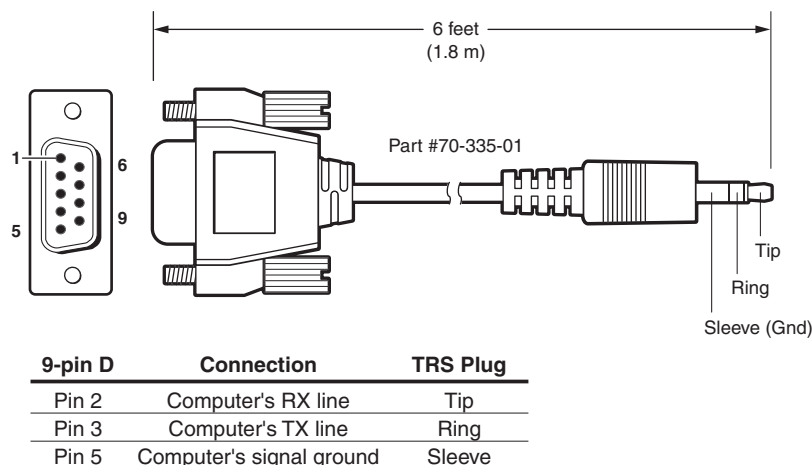

Figure 2-9 — Optional 9-pin TRS RS-232 cable
- ⑨ **Configuration port** — This 2.5 mm mini stereo jack serves the same serial communications function as the rear panel Remote port, but it is easier to access than the rear port after the matrix switcher has been installed and cabled. The optional 9-pin D to 2.5 mm mini jack TRS RS-232 cable, part #70-335-01 (figure 2-9), can be used for this connection.